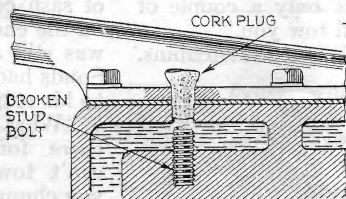

Fig. 6. A few corks in the tool box are handy if you break a bolt
**I**F YOU are unlucky enough to break off one of the water manifold bolts so that there is nothing to stop the water in the system from draining away, you can plug the leak with a cork as shown in Fig. 6. A spare cork or two in the tool box may come in handy as a substitute for a petcock in the oil or gas system.